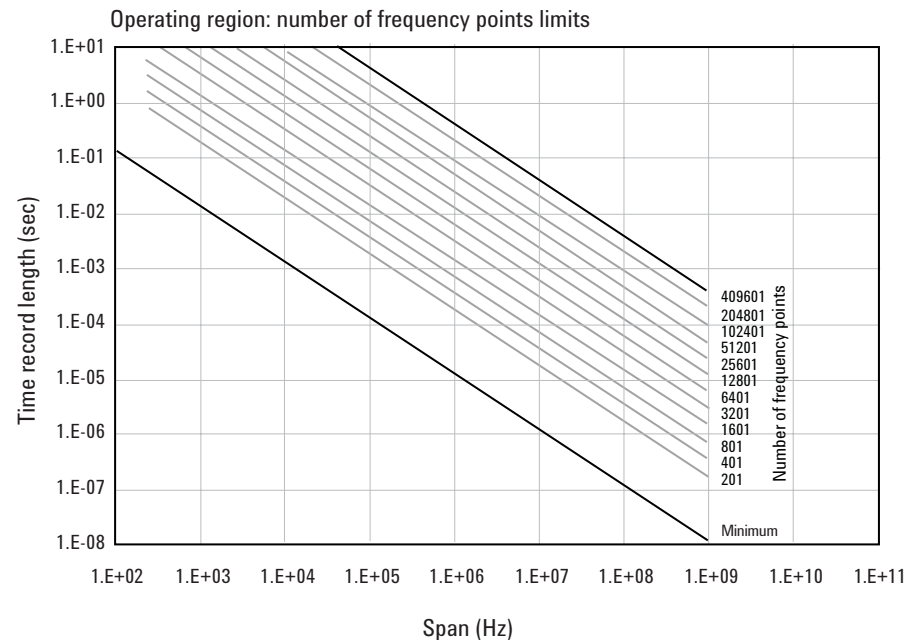

Figure 3. The user-settable parameter, frequency points, begins to determine the boundaries of the time record length and frequency span operating region
The operating region is described in terms of span and time record length. For a given window type it could just as easily be described in terms of span and RBW. Figure 3 shows the effects of the number of time points the 89600 VSA software is allowed to collect. Because sample spacing is inversely proportional to span, the record length decreases as span increases. Although a family of lines is shown, only two define the operating region at any one time. The lowest line gives the smallest time record length allowed for any given span. The position of this line is determined by minimum number of time points (16) the VSA requires in a time record. The line that defines the upper time record length boundary is positioned by the maximum number of time points the VSA allows in a time record. The maximum number of time points is determined by the Frequency Points setting (**Meas-Setup/ResBWFrequency Points**). The 89600 VSA is constrained to operate in the region between these two lines. Note that the operating lines of Figure 3 are the same for all digitizer models.